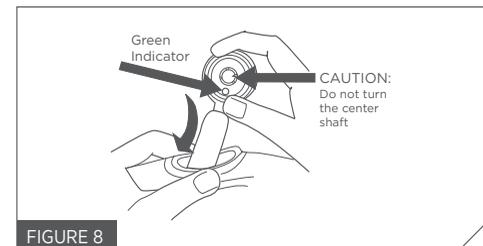

FIGURE 8
11. Gripping the inflator body, insert the cylinder through the clear O-ring – aligning it with the screen print by the O-ring (Fig. 8). (The inflator body will remain visible.)